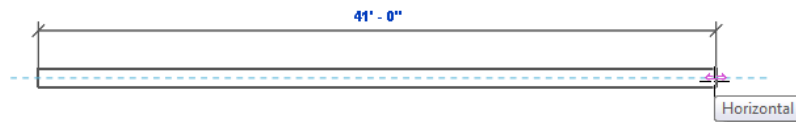

Figure 3-33 The sketched horizontal wall with its controls
- Move the cursor to the right until the temporary dimension shows a value more than 40' - 0" (12192 mm), as shown in Figure 3-33. Click at this location as the endpoint of the wall segment and press ESC twice; the wall is created. Note that, if the dimension is not displayed, you need to click on the created wall to display the dimension. Press ESC.